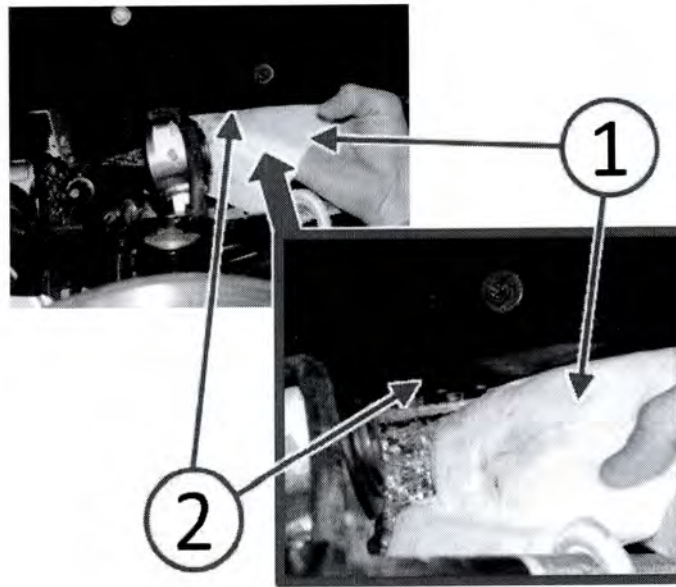

Fig. 5 Clean Contact Surface Of Structure To Shock Absorber Bracket
10. Using a clean cloth and isopropyl alcohol (1), thoroughly clean the carbon fiber vehicle structure at the shock absorber bracket contact surface (Fig. 5).